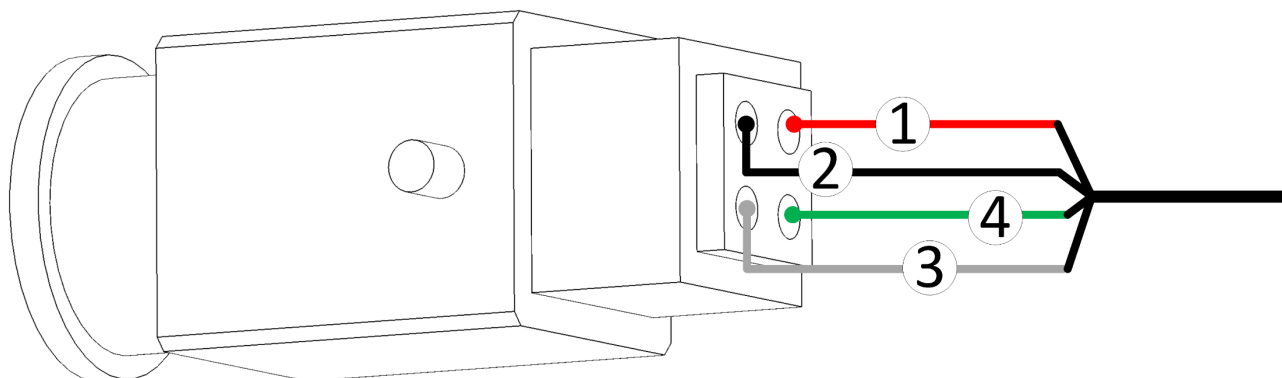

Figure 23: Wired Connector (example cable; actual colors may differ)
5. On the top of the connector are numbers (Figure 9). Each wire must be attached to the corresponding port (Table 2). Connect the four wires to the connector Figure 23.